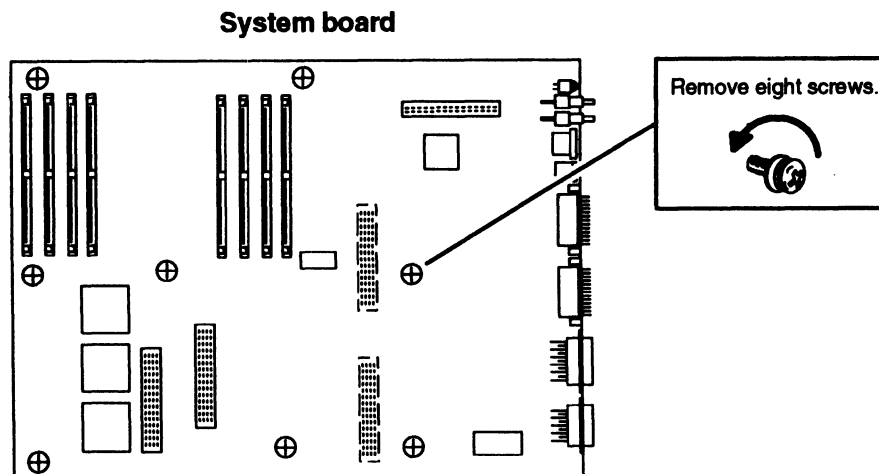

Figure 9-4 Unscrewing the System Board from the Computer Unit
6. Using the medium Phillips screwdriver, remove the eight screws, shown in Figure 9-4, that secure the system board to the computer unit.